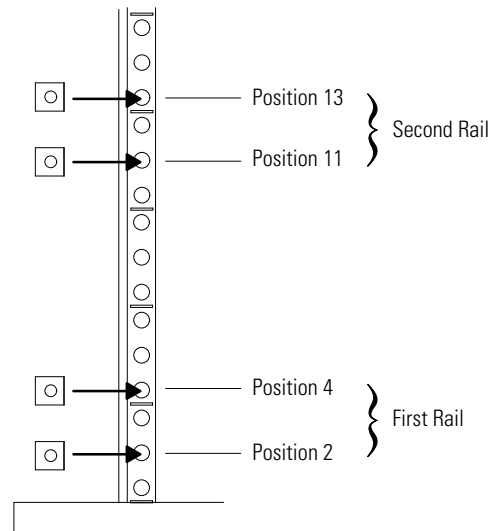
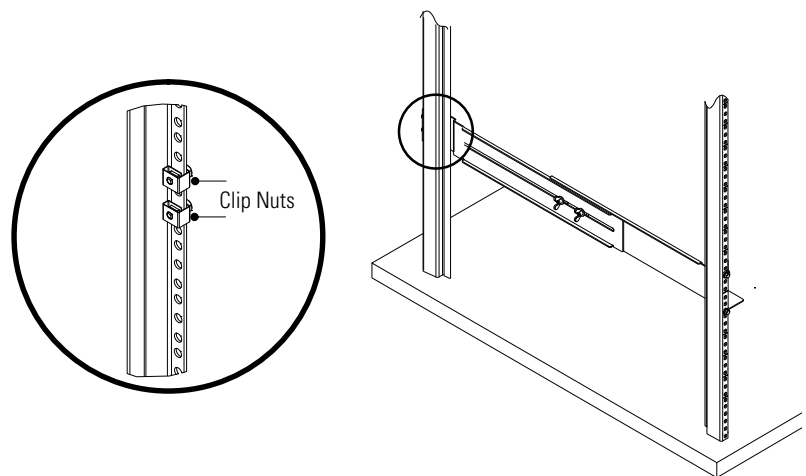

Figure 38. Rear Rail Screw Positions for the EBM
Figure 39. Securing the Rear Rail
4. Using two clip nuts and two hex-head screws, attach the rail to the rear of the rack (see Figure 38 and Figure 39).